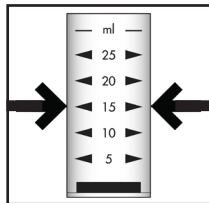

Figure 2
2. Fill the sample cup to the 15 mL mark with the sample to be tested (fig. 2). Stir to mix the contents of the cup.
2. Fill the sample cup to the 15 mL mark with the seawater sample to be tested (fig. 2).